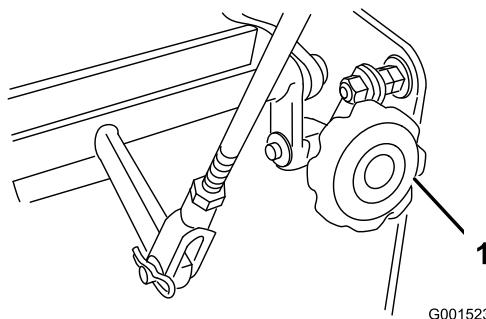

Figure 41
4. If the unit tracks to 1 side or the other, turn the quick track knob. Turn the knob right to steer right and turn the knob left to steer left (Figure 41).